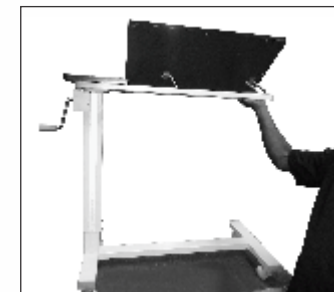

Fig 5
4. Turn the assembled table in upright position with the castors (Fig 5) on the ground.